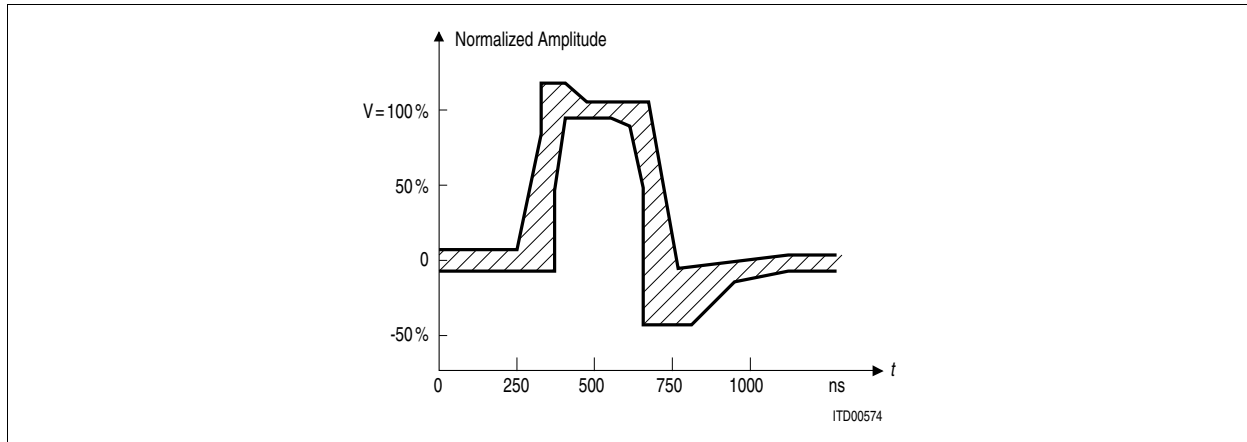

Figure 56 T1 Pulse Shape at the Cross Connect Point
- For T1: FCC68; ANSI T1. 403 1999, figure 4; ITU-T G703 11/2001, figure 10 (for different cable lengths), see Figure 56. For measurement configuration were $R_{load} = 100 \Omega$ see Figure 33.
With the given values in Table 24 or Table 26, for transformer ratio: 1 : 2.4, cable type AWG24 and with $R_{load} = 100 \Omega$ the pulse mask according to ITU-T G703 11/2001, figure 10, see Figure 56, is fulfilled.